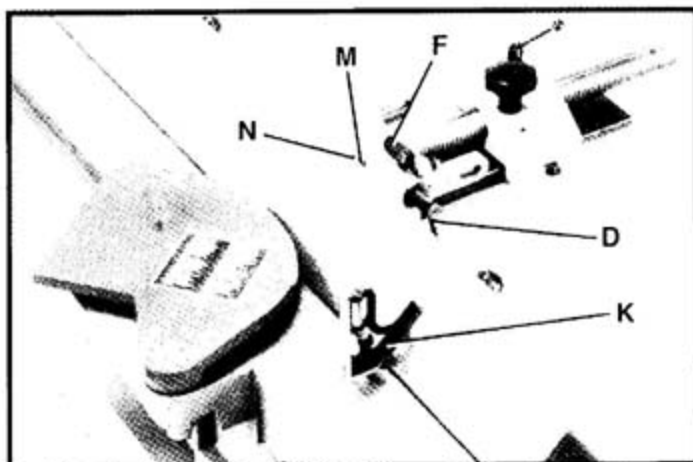

Fig. 55
5. Rotate flip stop (F) Fig. 55, and tilt the fence outward as far as it will go and tighten locking handle (D). Place a square (K) on the table and against the fence to check if the fence is 45 degrees outward to the table.
6. If an adjustment to the positive stop is necessary, loosen locking handle (D) Fig. 55, and locknut (M). Rotate adjustment screw (N) until you are certain the fence is 45 degrees outward to the table. Tighten locknut (M).